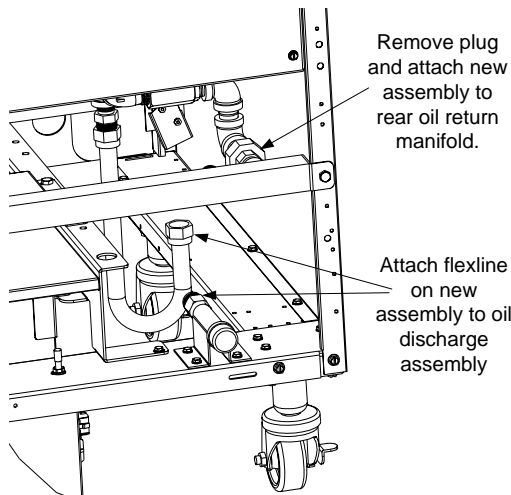

Figure 6: Rear connections.
12. Attach the rear fitting of the disposal assembly into the open port of the rear oil manifold from step 3. See Figures 6 and 7.
13. Attach the 11 ½" flexline from bottom of the disposal assembly to the rear oil discharge nipple assembly (108-2737) mounted in step 4. See Figures 6 and 7.